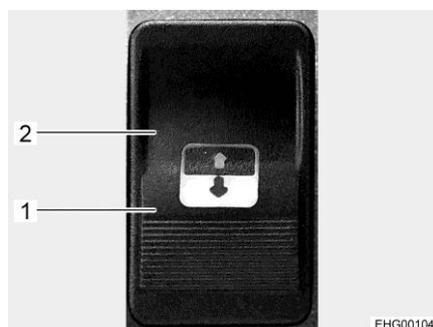

Fig. 123 Operating button
The operating button (Fig. 123) is installed on the vehicle's ceiling, next to the sunroof
- Press and hold the operating button on the side of the opening symbol (Fig. 123,1) until the sunroof has reached the desired position.
- Press the operating button on the side of the closing symbol (Fig. 123,2).
- Press and hold the operating button on the side of the closing symbol (Fig. 123,2) until the sunroof has been closed as far as possible.